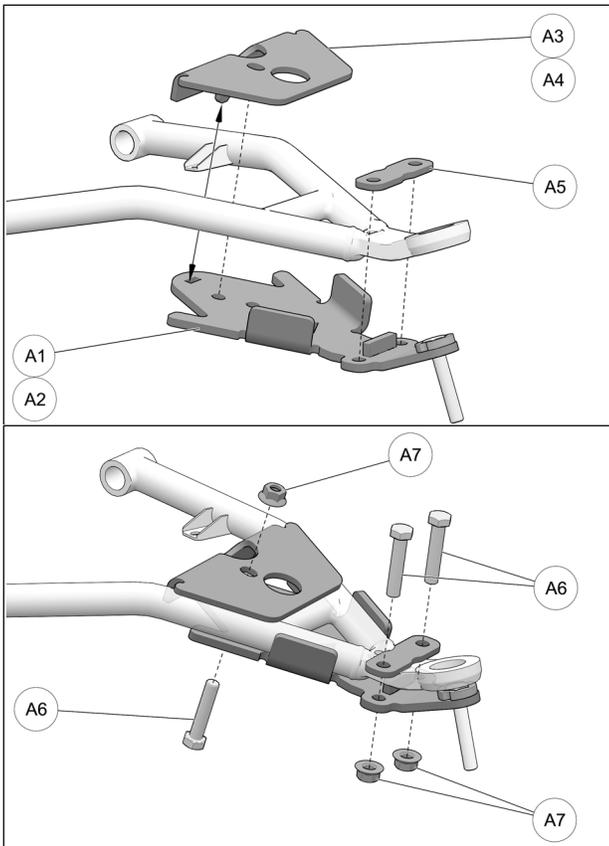

Fig. 11
- Position bottom part of anchor bracket (A1-A2) assembly under front lower suspension arm, as shown in the figure below. Position bracket covers (A3-A4-A5) over suspension arm and align holes in covers and bottom part. Secure the top and bottom of the bracket assembly with the provided M10x50mm bolts (A6) and nuts (A7). Tighten to 50 N•m [37 lb•ft] of torque. Refer to Fig. 11